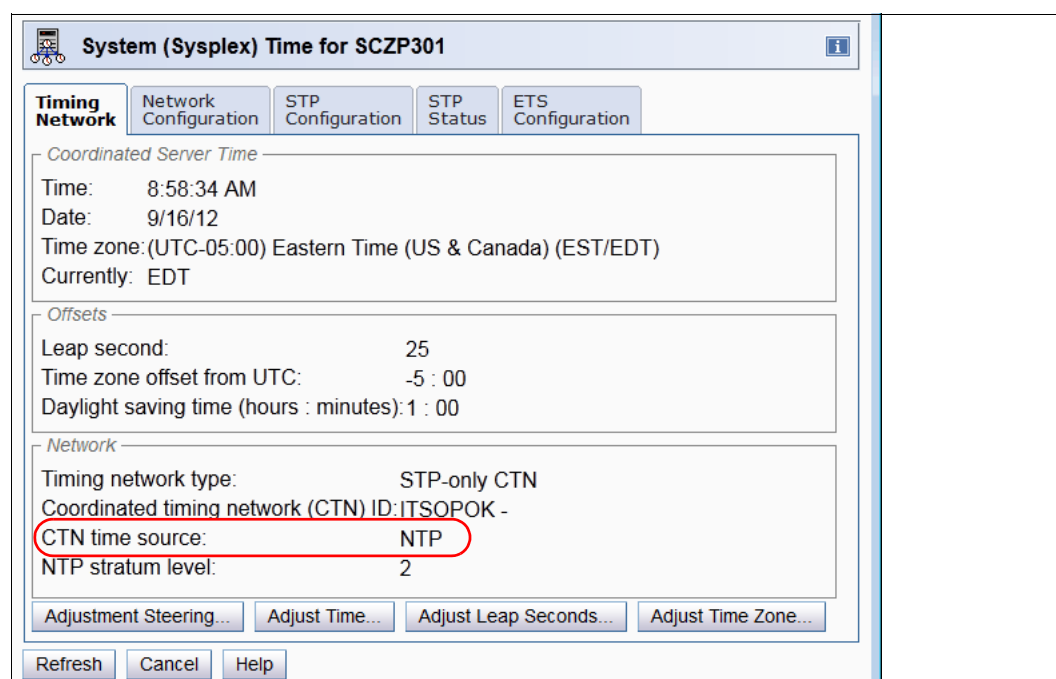

Figure 6-2 Timing Network tab from Current Time Server
Figure 6-2 shows the view from the Current Time Server in a CTN with two servers:
The Adjustment Steering button is enabled after the first adjustment is made and remains enabled (Figure 6-2).
- CTN time source (see Figure 6-2) identifies where the clock source is according to the STP facility.